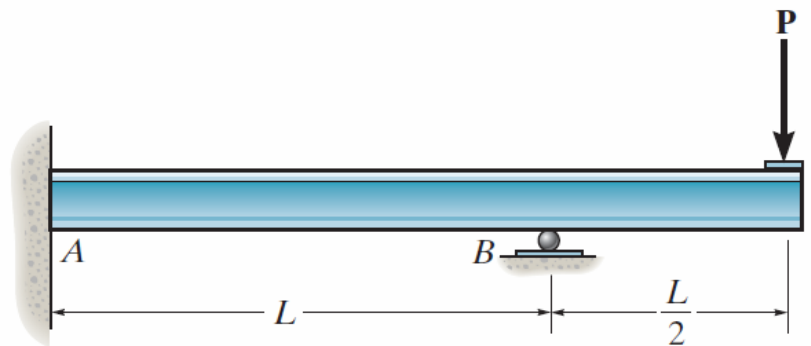

Fig. 5
5. A propped cantilever beam of constant EI is loaded as shown in Fig. 5. Determine the reactions at the supports A and B using method of superposition.